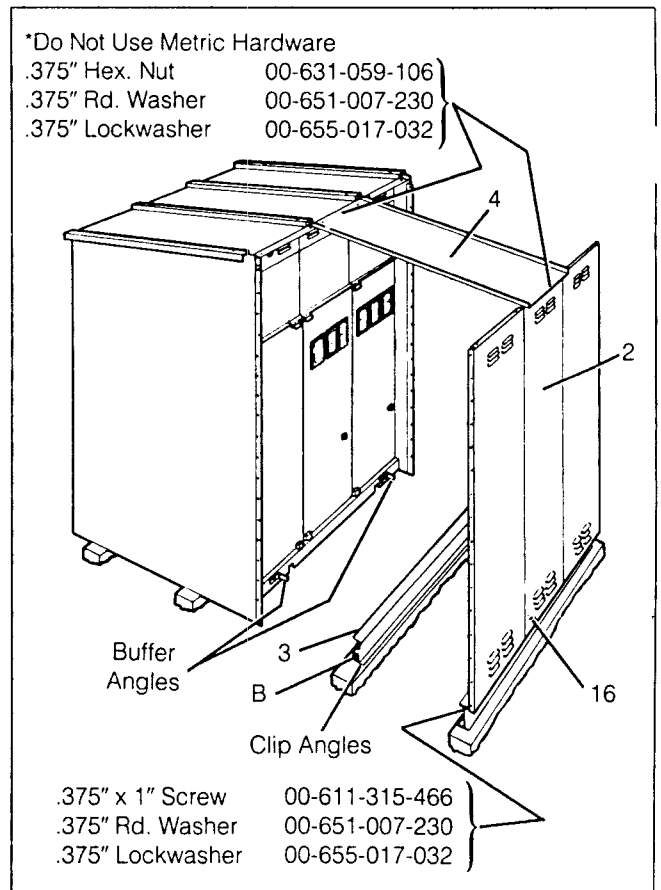

Figure 24. Aisle Wall Assembly — Single Aisle Layout
1. Temporarily support the aisle wall assembly (removed for the plumb bob check) in its permanent position as shown in the general arrangement drawing. (See Figure 24.) Remove the aisle beam (3) from top of the wall assembly (2) and place the beam, with clip angles near the top, in position B.